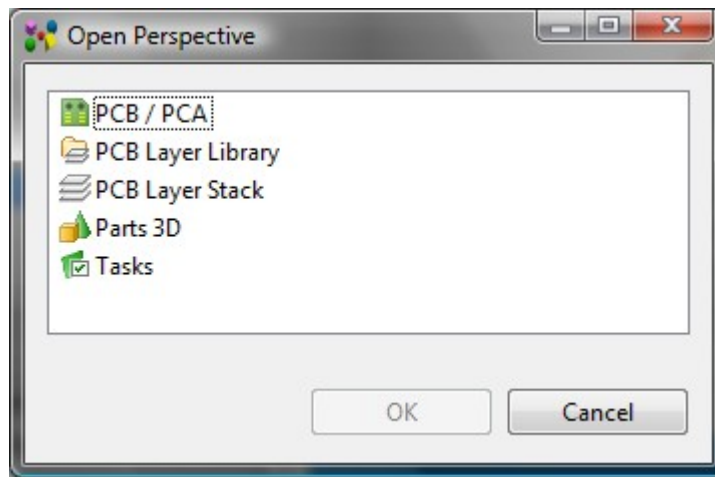

Figure 1. Open Perspective dialog window
- Choose **Other** from the menu. The **Open Perspective** dialog window appears (see Figure 1).